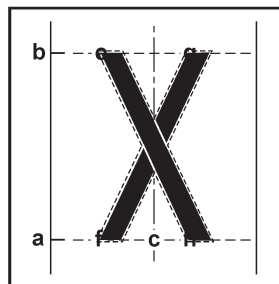

Figure 42
6. Take a 16 inch roll of 3M™ Stamark™ Tape and lay it out with the left edge along the diagonal line extending from point “e” to point “h” as you would a crosswalk or stopbar. (See Figure 42.)
7. Lay out the other diagonal line by first applying the section from point “g” and move towards the center of the “X”. Cut diagonally along the first line that was installed and shown in Figure 42. Continue laying out the tape along the diagonal line extending from the center of the “X” to point “f”. Use the diagonal end of the tape as a starting point at the center of the “X”.